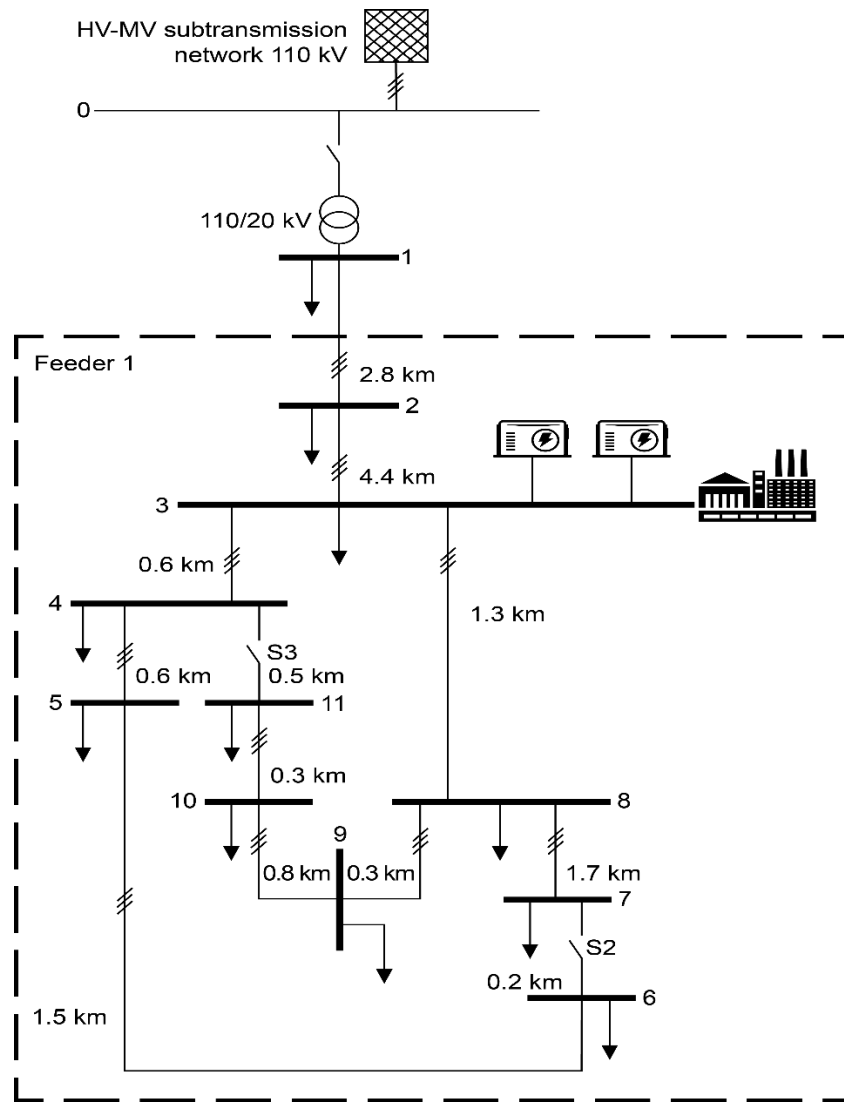

Figure 1 Part of the European MV distribution network benchmark
Download “AP_Assignment.pfd” and save it in your computer. Open the DIgSILENT Power Factory (PF) and then go to: “File>>Import>>Data (*.pfd,*.dz,*.dle)”. Then select the “AP_Assignment.pfd” file from the place where you saved it in the computer and then click “Open”. Then activate the project: “File>>Activate Project” and select the project “AP_Assignment” and press “OK”. A schematic of the network model is shown in Figure 1
Assume that you are a Power System Planning Engineer working for a Power Utility Company. The Chief Engineer in the power system planning department asked you to conduct a system study for The Medium Voltage system in Figure 1. The following analysis needs to be done and recorded:
Keeping all other variables constant, added a 3 MW load (Factory) to bus 3 according to Figure 1. Then, change the active power P of load on Bus_03 & Bus _04. Starting from their initial values, separately for each bus increase the value of P in steps of 4.5 KW till you reach a value more than 45 KW from their initial value. Give comments about overall system at this point. Record values in a Table.